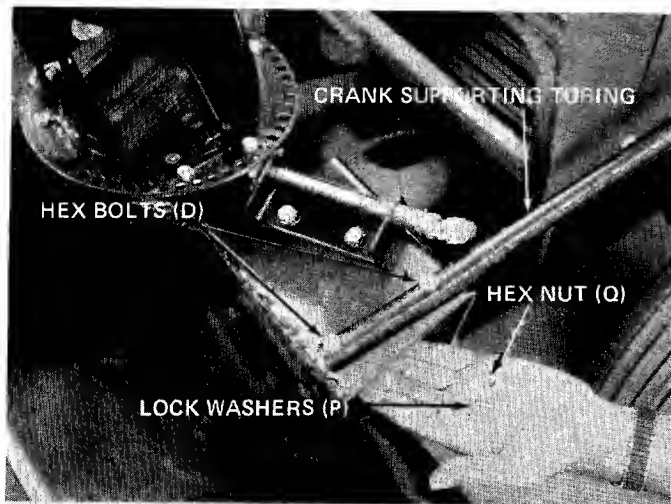

FIGURE 24
11. Assemble the crank support tubing to the snow thrower housing. Secure in place with two hex bolts (O), lock washers (P) and hex nuts (Q). See figure 24. An adjustable wrench and 1/2" wrench are required.